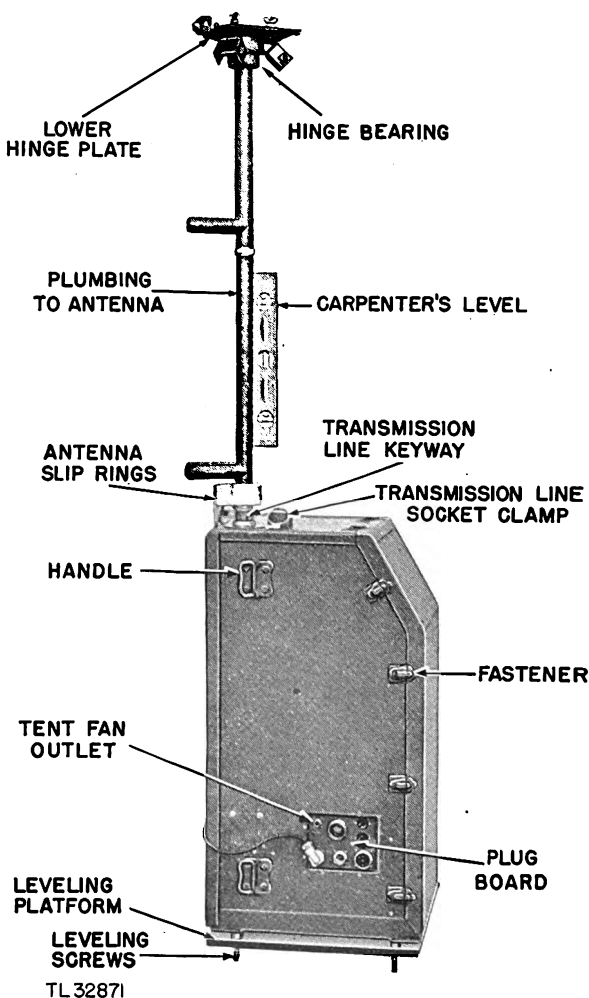

Figure 22. Console in the leveling position.
- (a) The plug board (fig. 22) for:
- (i) The handle hinges and fasteners of the console for cleanliness. Make sure the handle hinges and fasteners are properly lubricated with vaseline (fig. 22).